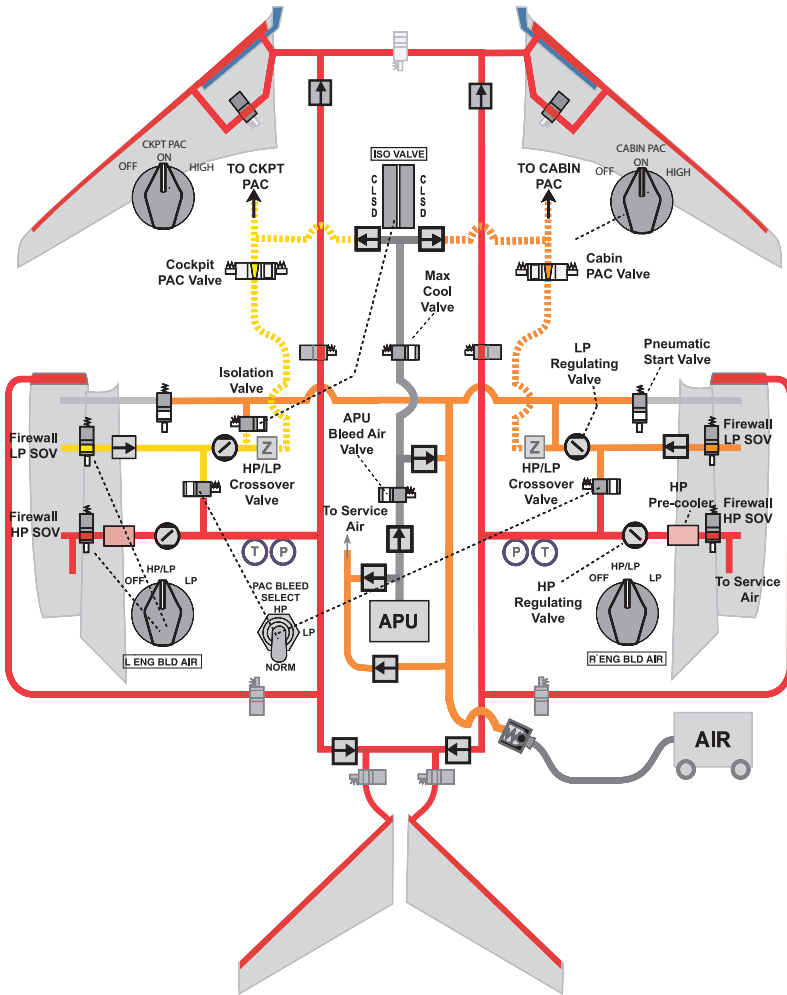

Figure AS-11. Pneumatic System
Pressurization and environmental control bleed air is engine-supplied low pressure (LP), high pressure (HP), or onboard APU bleed air (or external ground cart air on the ground). All three onboard sources or any combination can be used on the ground or in flight. APU maximum altitude is FL310. Bleed air and environmental system control is provided in the environmental control panel on the right tilt panel (Figure AS-11).